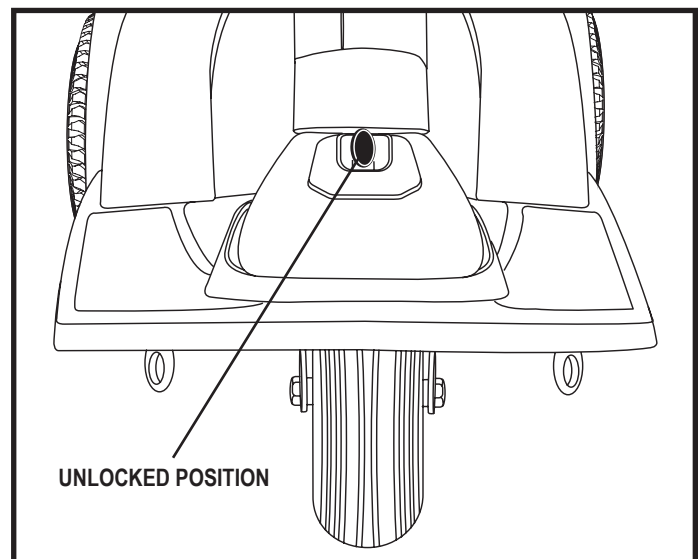

Figure 23. Tiller Lock Knob (Unlocked)
5. Unplug the front-to-rear and rear lighting harnesses by squeezing the sides and pulling straight up. **See figure 23.**
9. Unlock the front wheel by turning the tiller lock knob 90° anticlockwise. **See figure 23.**